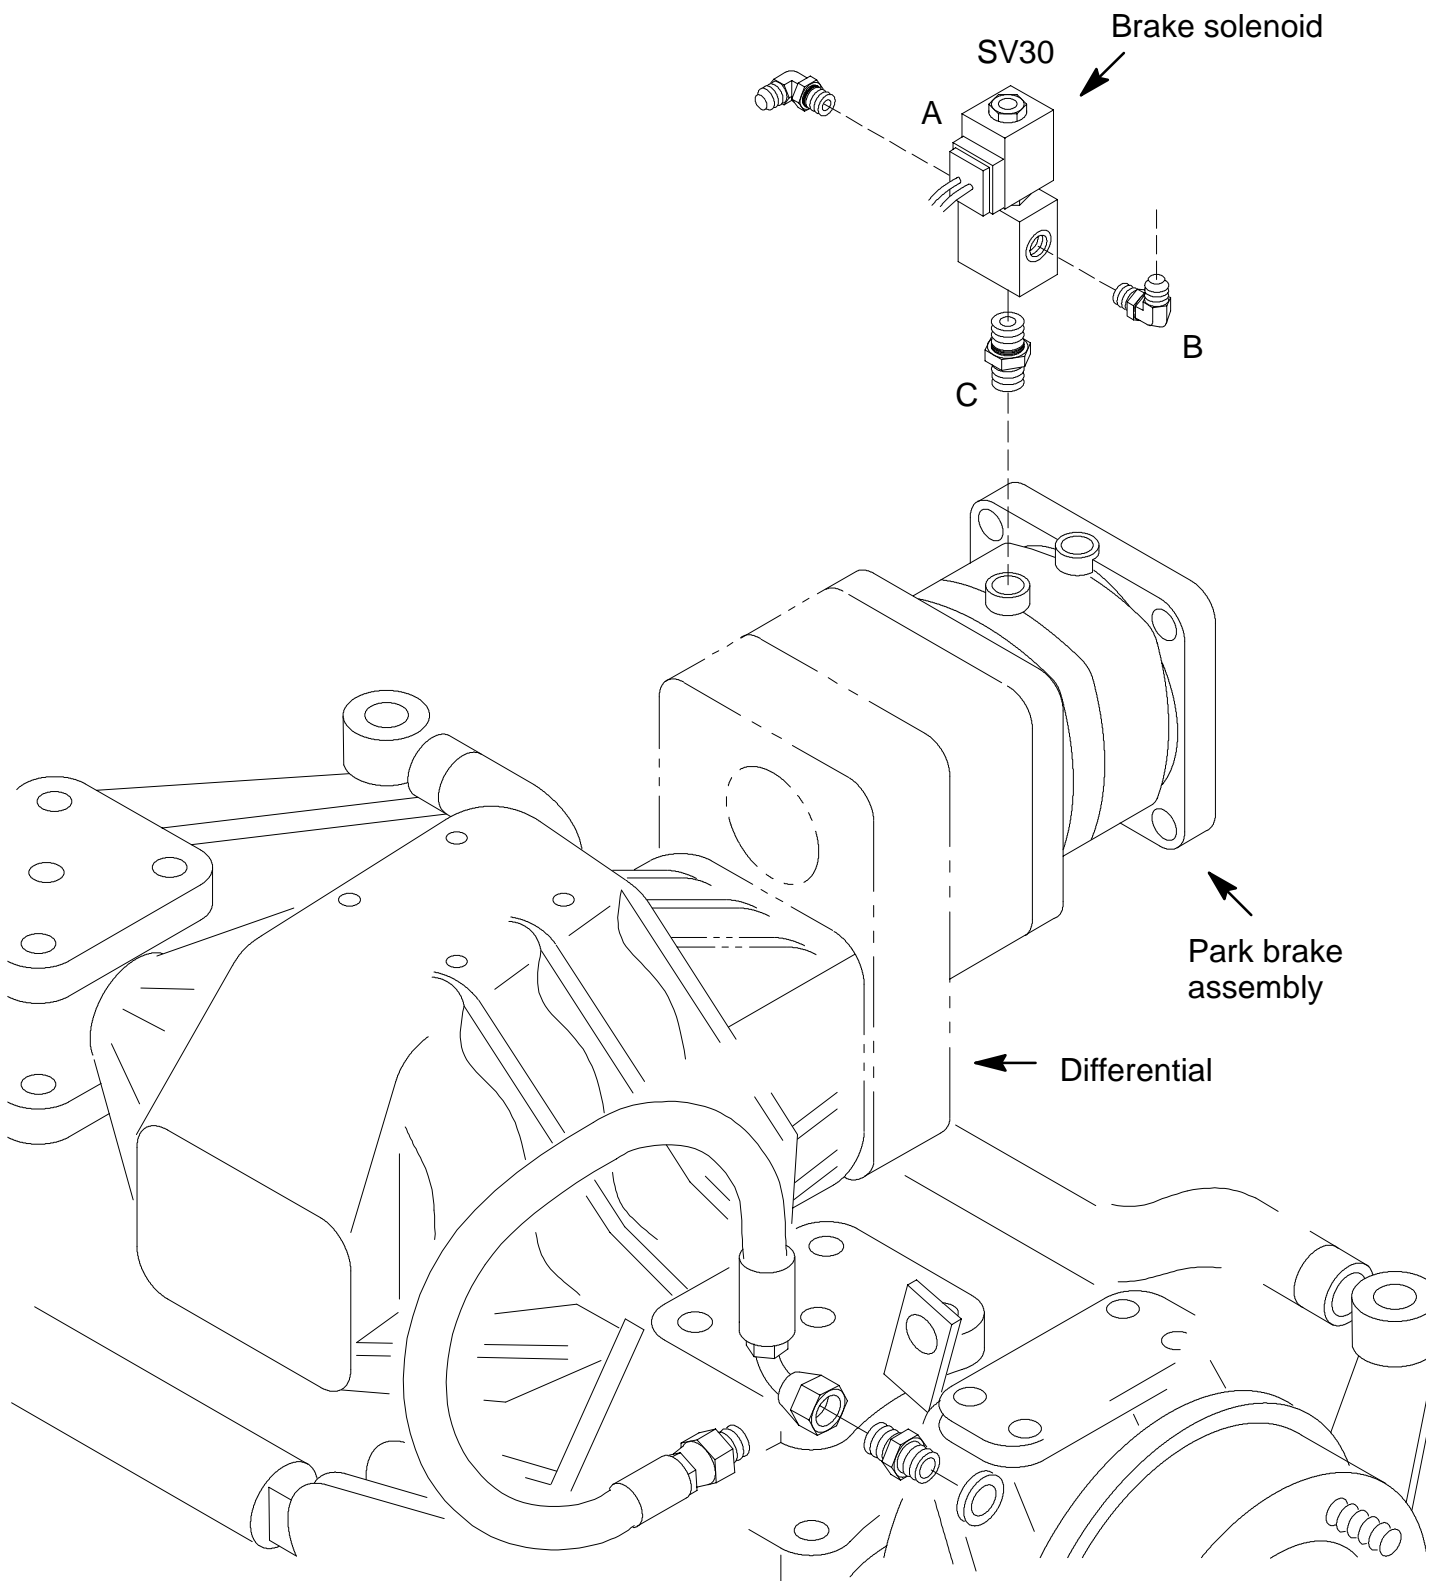

FIG. 1 - Parking Brake Solenoid
(Refer to FIG. 1 and 2)
12. Mark, disconnect, and plug the hydraulic hoses leading to the electrical solenoid (SV30) on top of the parking brake unit. *(Refer to FIG. 1)*
13. Unplug the parking brake solenoid from the main harness. *(Refer to FIG. 1)*
(Refer to FIG. 1, 2 and 3)
4. Position the park brake assembly (1) onto the differential. **DO NOT ALLOW THE BEARING PLATE TO MOVE OUT OF PLACE DURING INSTALLATION.** Reinstall the 4 M12 bolts. Use thread adhesive (5) on the threads and tighten to 47 - 61 ft lb (64 - 83 Nm). *(Refer to FIG. 1 and 2)*
5. Install the hydraulic control valve (2) onto the top of the park brake assembly (1). Reconnect the two hydraulic hoses and reconnect the electrical connector to the control valve (2). *(Refer to FIG. 1)*